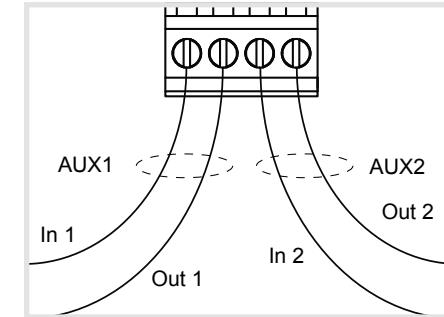

Figure 6: Connecting terminal (AUX) for external signal generator
The device has two potential-free contacts (Figure 6) e.g. that a KNX radio binary input can be connected to. In this way, for example, an alarm signal can be sent to the KNX bus and an alarm message is generated and displayed on a care/alarm unit. The alarm signal remains activated until the alarm message is acknowledged by pressing the button (3) on the sensor unit. The wiring of the potential-free contacts and their meaning is shown in Table 3.
- Connect cooker supply cable 1-phase (29) to the connection terminals **IN** (21/22/28) of the power control unit. When doing so, first connect the earth conductor.
- Insert the connection cable (29) through the cable entry (10).
- Fix strain relief (25).
- Connect the connection cable 1-phase (29) to the connection terminals **OUT** (21/22/27) of the power control unit. When doing so, first connect the earth conductor.
- Optional: Insert water leakage sensor into the connection socket (11) of the power control unit (9) (see Mounting Water Leakage Sensor).
- Fasten casing cover (12) using the fastening screws (13) on the lower casing.
- Optional: Connect external signal generator to potential-free contact (17) (Figure 6).